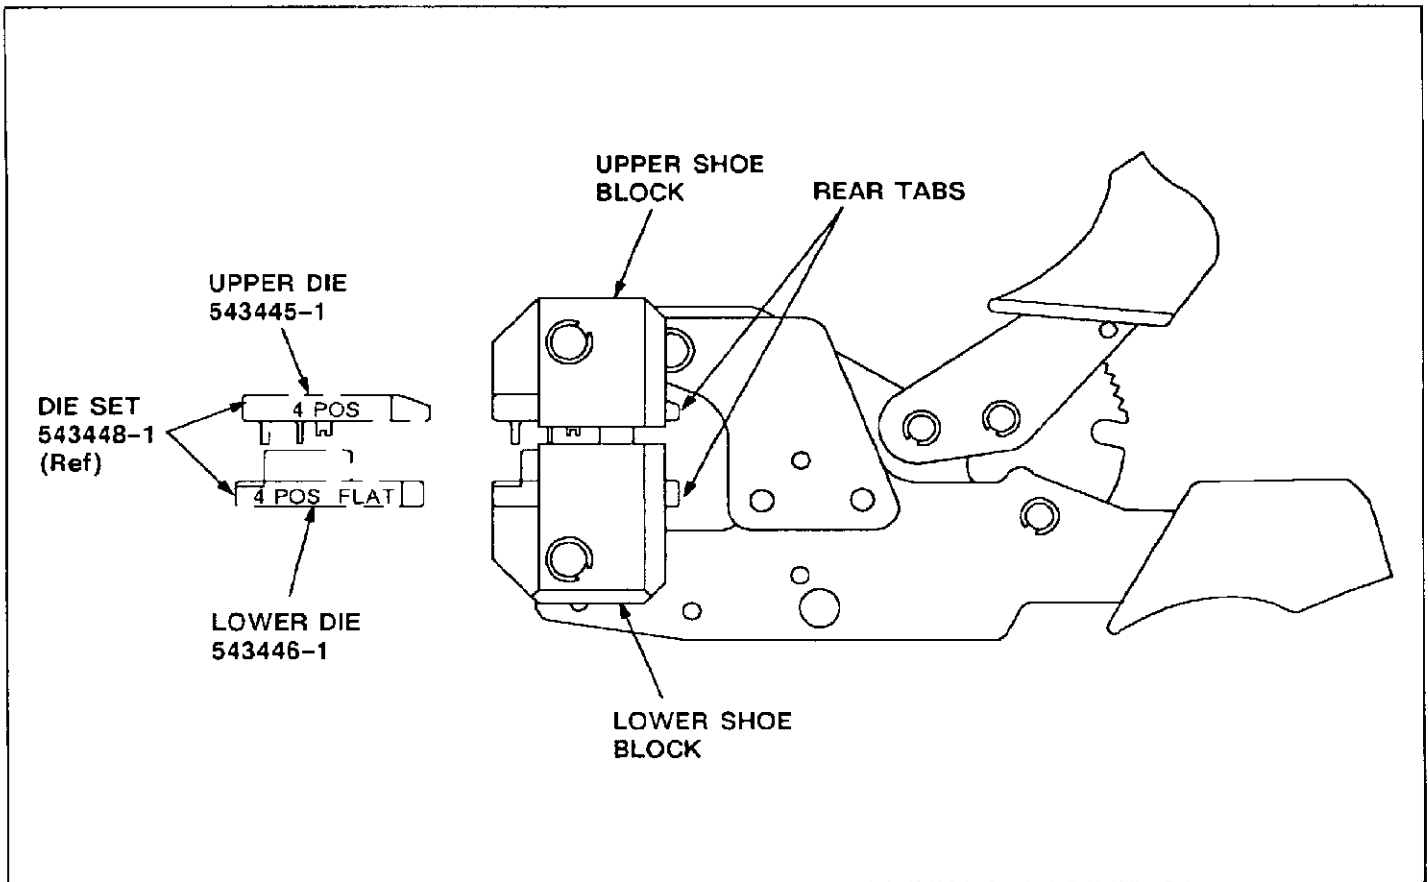

Fig. 3
4. DIE INSTALLATION AND REMOVAL (Figure 3)
1. Slide the upper die into the upper shoe block of the hand tool until it snaps into place. See Figure 3.
2. Slide the lower die ("RND" for round cable applications; "FLAT" for flat cable applications) into the lower shoe block of the hand tool until it snaps into place. See Figure 3.